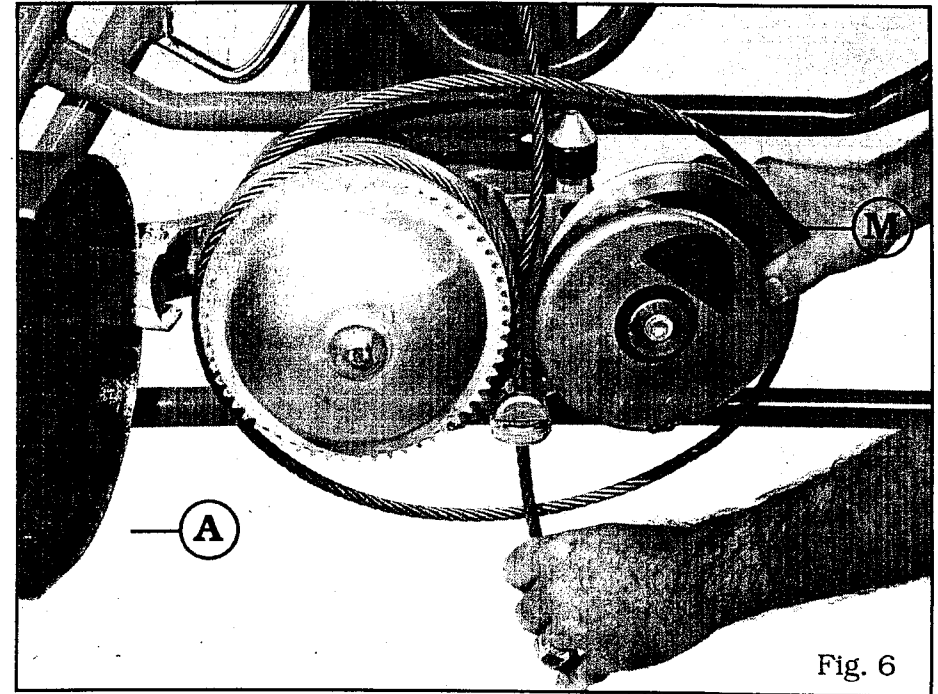

Fig. 6
[See Fig. 6 and 7.]
- a. Open cover (A).
- b. Push with your hand against transfer wheel (M) to swing breech open.
- c. Insert wire rope between drive pulley (N) and transfer wheel (M).
- d. Wind wire rope around drive pulley (N) clockwise—pull up spring-loaded pawl (O) to permit wire rope to continue around drive pulley (N). To release pawl from clutch teeth rotate drive shaft counterclockwise.
- e. Continue reeving wire rope over and around transfer wheel (M)—then up, over and around tension sheave (Q)—then down through fairlead (R).
- f. After opening knurled ring, insert wire rope in bottom fairlead ring (R). Swing breech open to withdraw confinement pin (T), insert wire rope in bottom fairlead ring and then pull down on wire rope to remove slack. [Fig. 6.]
**WARNING:** Failure to secure the wire rope in the bottom fairlead (R) may result in the wire rope becoming disengaged from the speed reducer resulting in potential danger to the user.